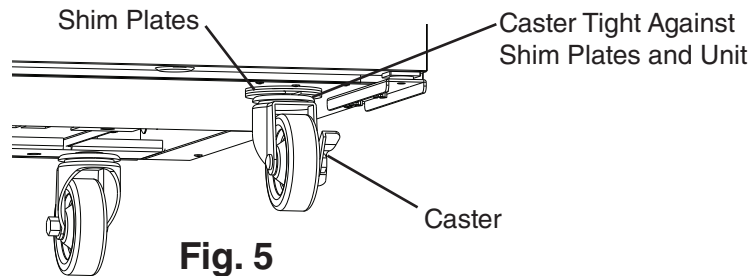

Fig. 5
- 4) Tighten the caster. See Fig. 5. **NOTICE! Make sure the caster is tight and no slack is left between the caster, shim plates, and appliance.**